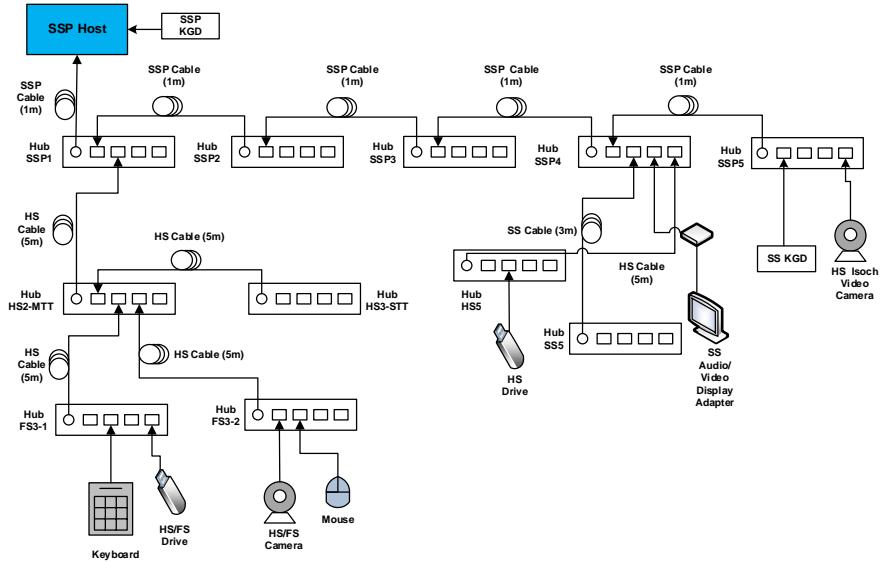

Figure 11-4: Modified SSP Host Interoperability Interim Tree (with SSP device and SSP Hubs Interop Tree)
- Connect one SSP DUT/KGD at root port. On a second port of the SSP host connect the SSP tree as shown in Figure 11-4
- Disconnect the SSP device from root port and connect it behind SSP5 (refer to Figure 11-4)
- Disconnect the SSP device from SSP5 and connect it behind SS5 (refer to Figure 11-4)
- Disconnect the SSP device from HS5 and connect it behind FS3-1 (refer to Figure 11-4)